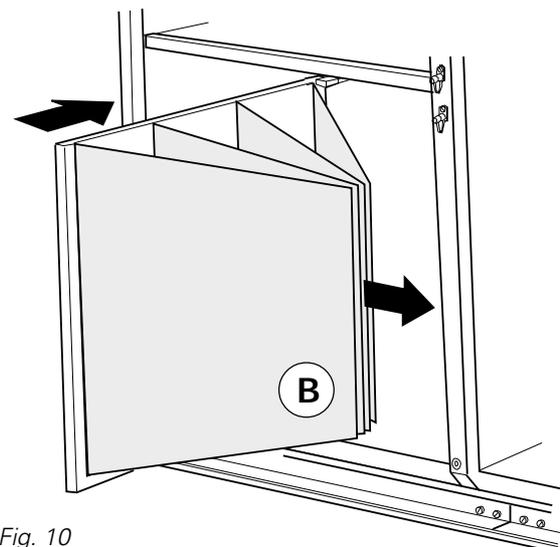

Fig. 10
**N.B.** When fitting new filters, it is important to stretch the filter bags (B in Fig. 10), so that they will not catch or become folded.